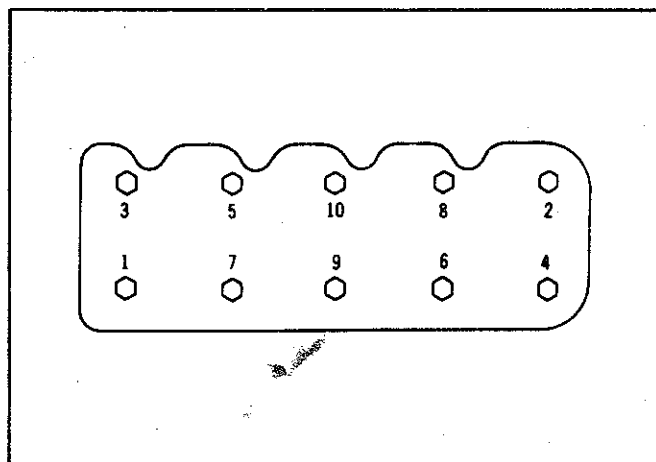

Fig. 15—Cylinder head bolt removal sequence
(13) Loosen the cylinder head bolts using Tool E9M20, in two stages to prevent cylinder head warpage — use sequence shown in Fig. 15.
(14) Remove the cylinder head from the cylinder block being careful not to dislodge the camshaft sprocket.